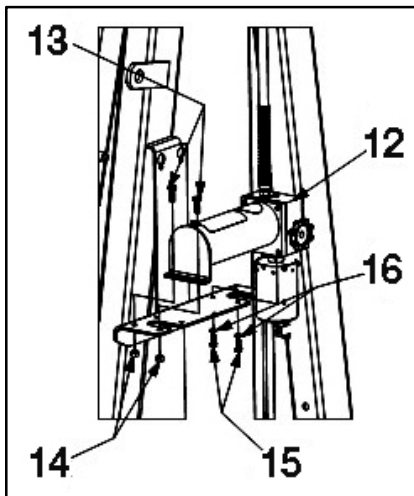

Fig. 6: Mount air pump
2. Mount the air pump [#12] to the pump bracket [#11] as shown in Fig. 6. Use two 3/8" X 1" bolts [#13] and 3/8" nuts [#14] to secure the reservoir end of the air pump [#12]. The opposite end of the air pump [#12] is attached to the pump bracket [#11] using two 5/16" X 3/4" bolts [#15] and two 5/16" lock washers [#16]. The 5/16" X 3/4" bolts [#15] thread into tapped holes in the air pump [#12].